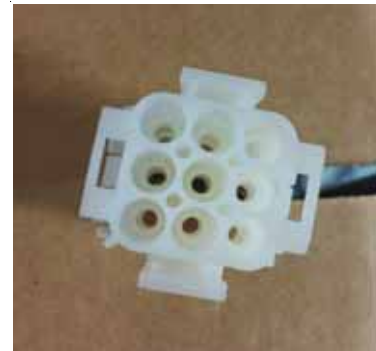

Figure 17
9. Locate the 9-pin harness in the unit and remove the male plug (Figures 17 and 18).